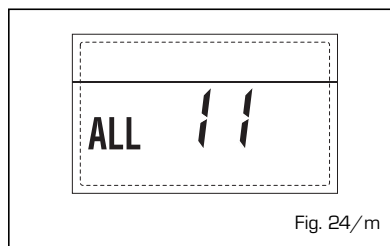

Fig. 24/m
**- CONFIGURATION ANOMALY ALARM 12** (fig. 24/n)